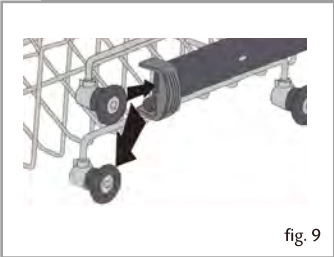

fig. 9
- Remove the upper basket, and relocate the alternate set of wheels on the runner, as shown in figure 9, pushing the basket back into place.